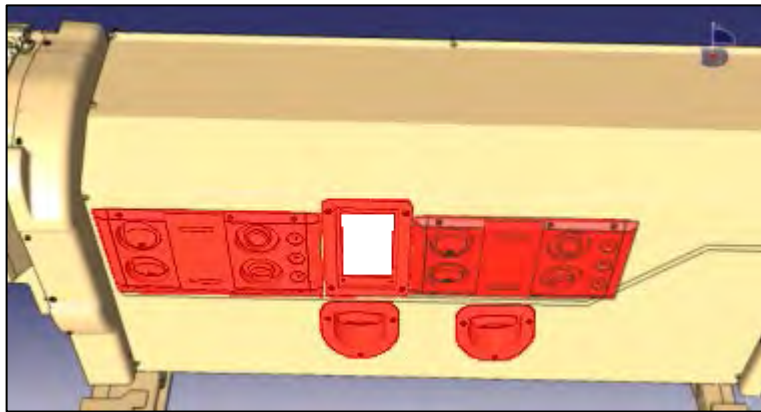

Figure 9
Revision: A Changed *figure 9*. Updated related steps. Time required was 1h, is 2.5h. 2018-06-20
4. Create some working space by removing screws and disconnecting both modules, lights and the ultrasound threshold sensor. Reserve hardware. (Figure 9)